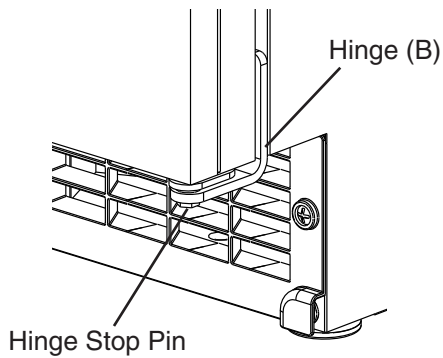

Fig. 21
9) Attach the door to hinge (A), then continue to maintain a hold on the door. Screw the hinge stop pin into hinge (B) until it is tight. See Fig. 21.